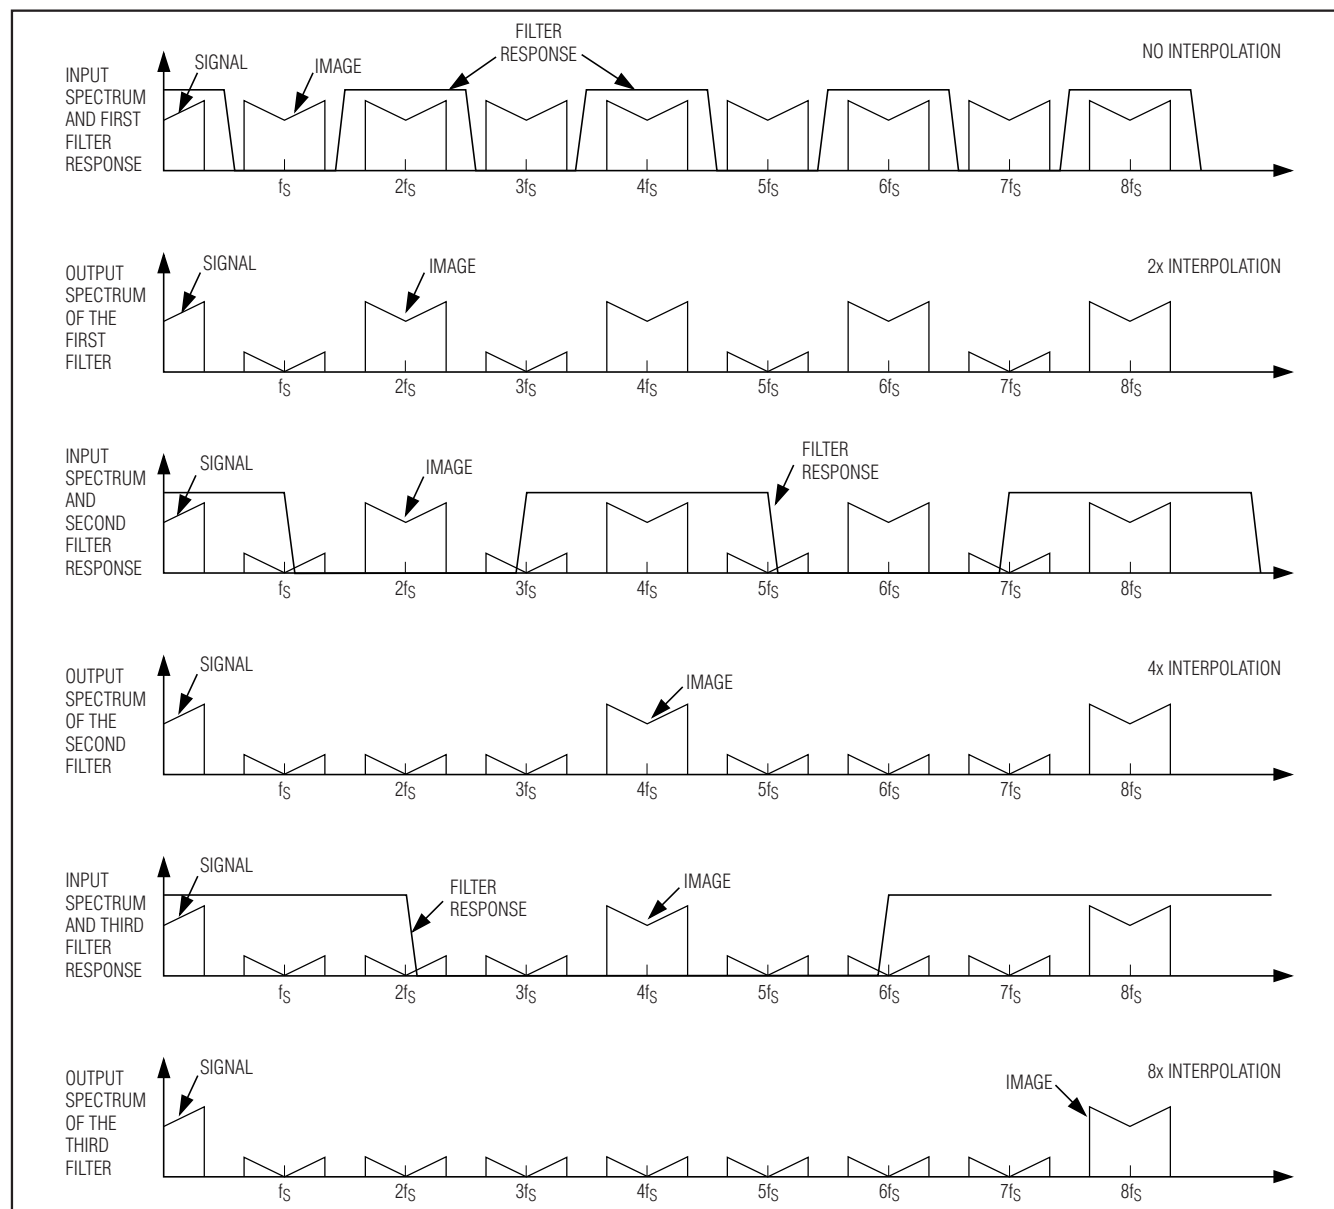

Figure 9. Spectral Representation of Interpolating Filter Responses (Output Frequencies are Relative to the Data Input Frequency, f_s)
3) $\text{Sin}(x)/x$ rolloff is reduced over the effective bandwidth. Figure 9 illustrates a practical example of the benefits when using the MAX5895 in 2x, 4x, and 8x interpolation modes with the third filter configured as a lowpass filter. With no interpolation filter, the first image signal appears